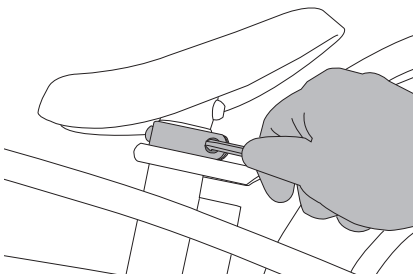

Figure 8
- Identify the black clamp under the seat and loosen the large hexagonal screw with the 5 mm Allen wrench. See Figure 8.